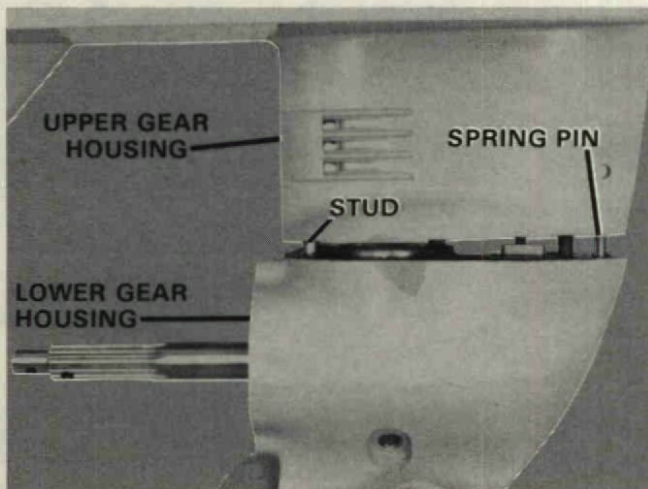

Figure 38. Installing Lower Gear Housing to Upper Gear Housing.
- A. Align spring pin in front of lower gear housing with bore of upper gear housing. Figure 38.